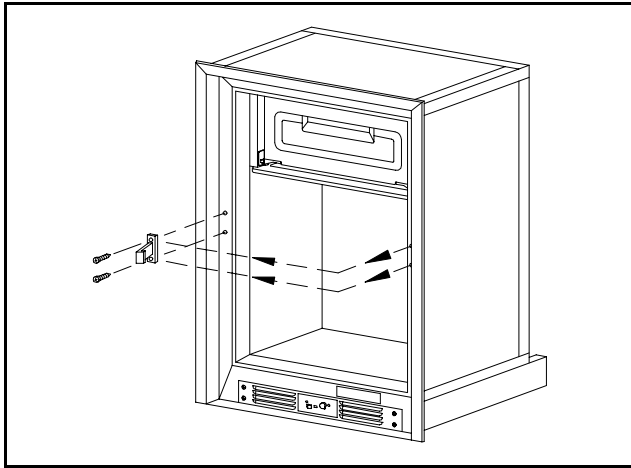

Figure 12
12. Using the #2 phillips screwdriver, remove the two screws securing the travel latch to the refrigerator. Save the screws for later reassembling (see Figure 12 on page 7).
14. Reposition the travel latch in the two holes exposed by the removal of the hole plugs. Attach travel latch using the two screws previously removed. Do not tighten screws (see Figure 12).